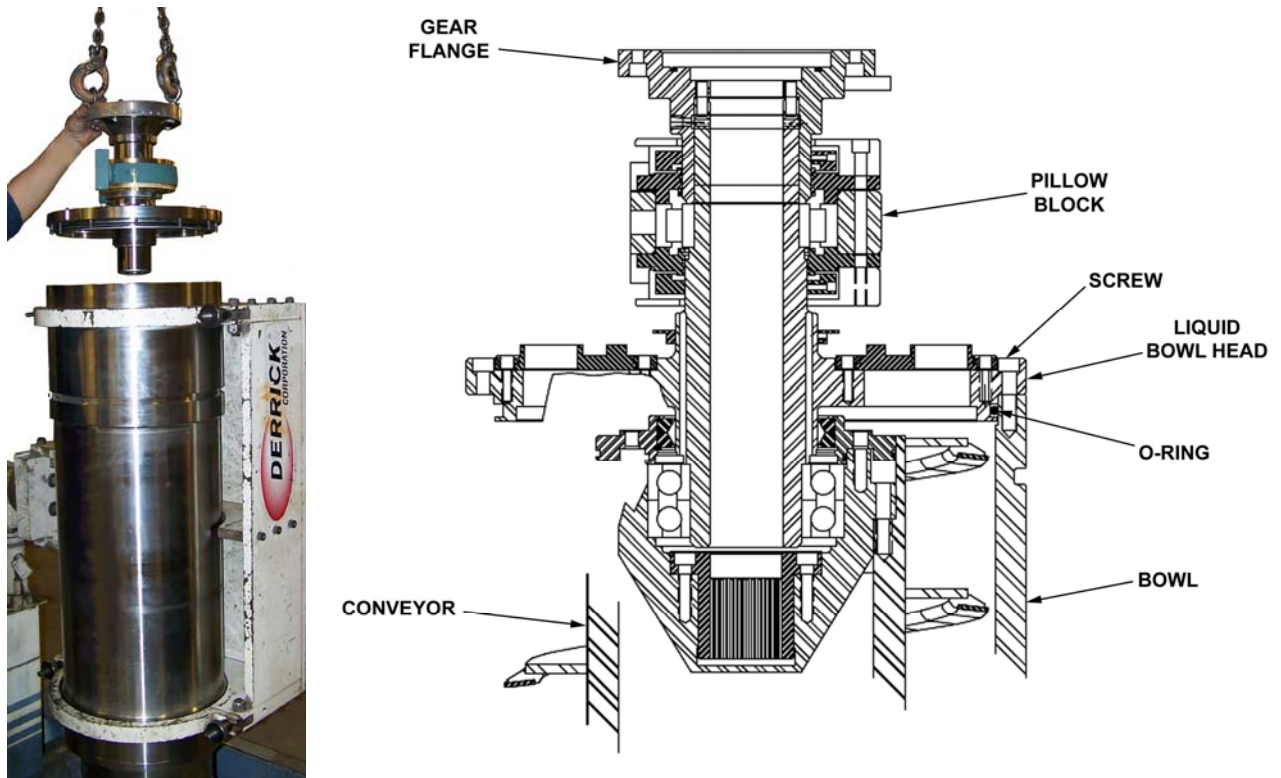

Figure 5-5 Liquid Bowl Head Removal
- a. Hoist and orient rotating assembly vertically with solids end down, and insert end into slot in vertical stand (Figure 5-5) while continuing to support weight with the hoist.